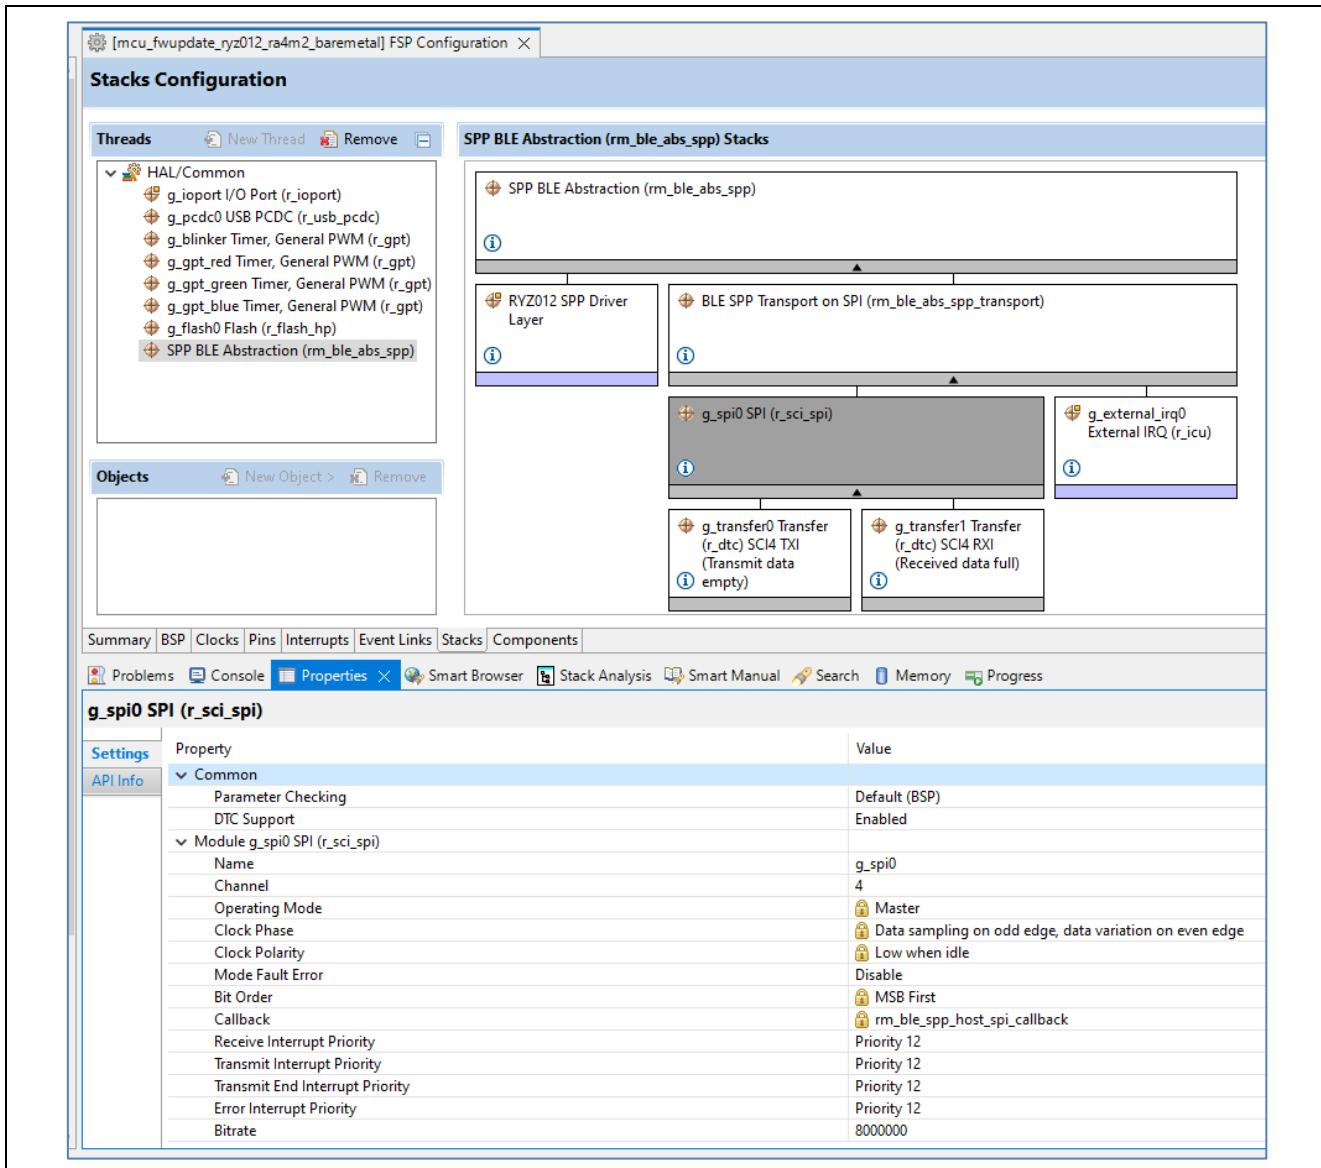
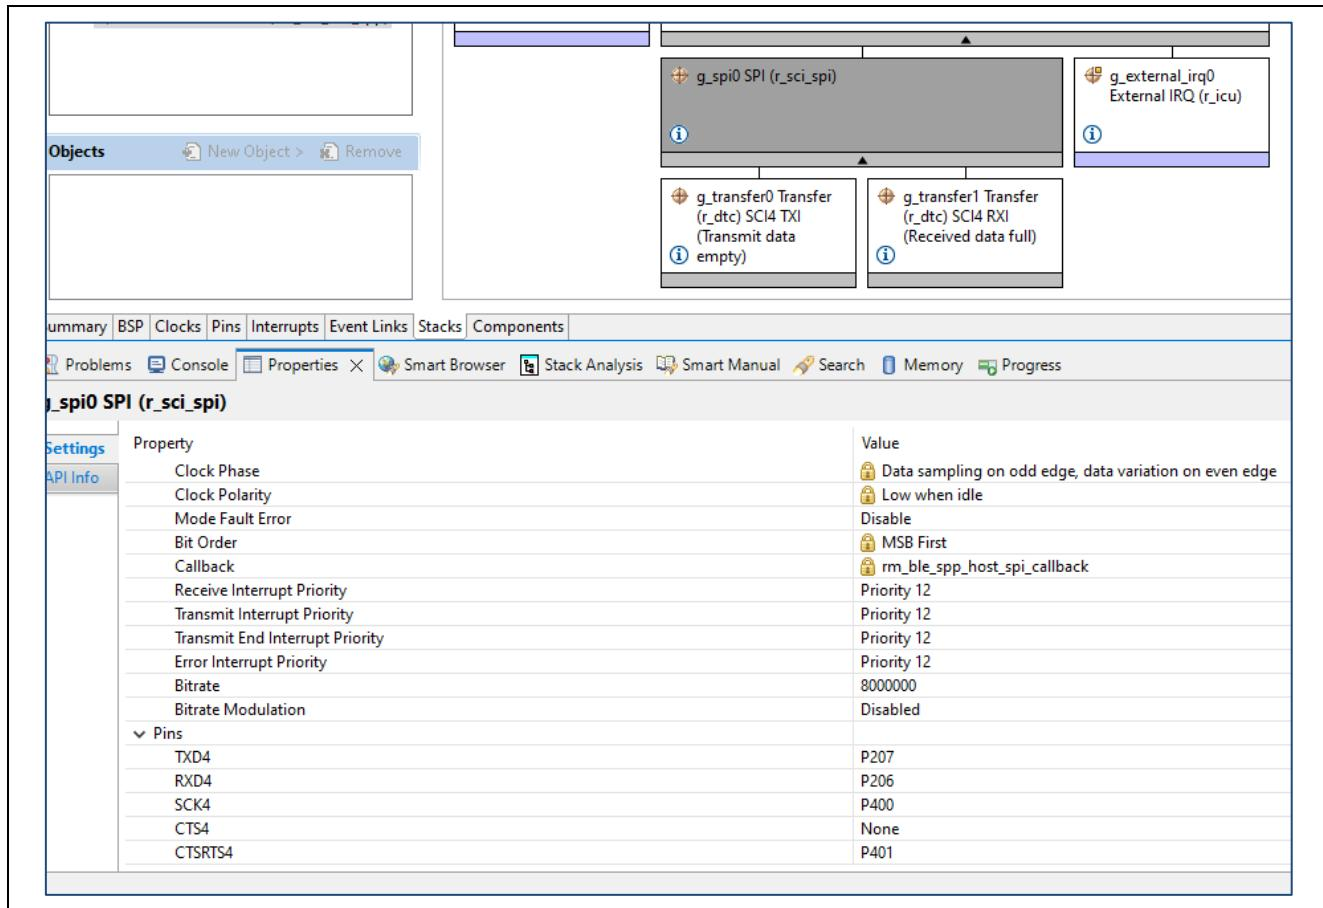
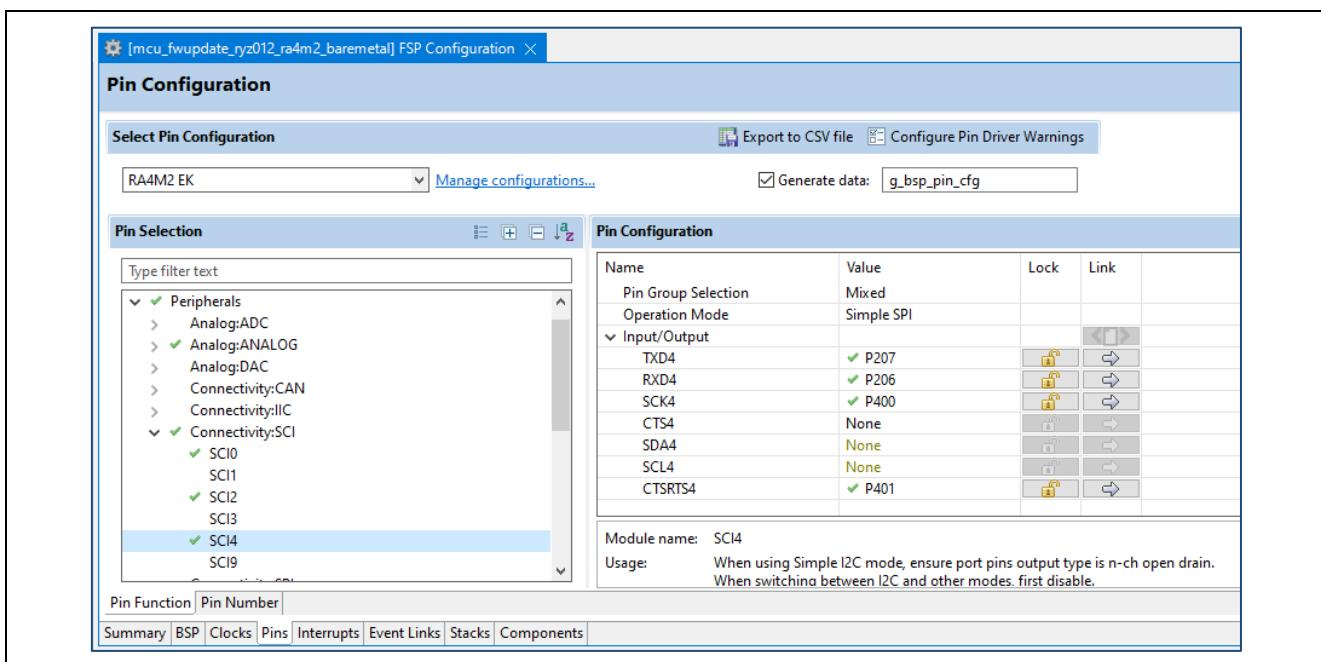

Figure 32. SPI Module Properties
Figure 33. SPI Module Properties – Pin Assignments
Figure 34. Pin Configuration > SCI
See Figure 32, SPI Module Properties. For the SPI configuration, it is necessary to specify which SCI channel to use. Match the SCI channel used and configure it as the SPI interface for PMOD1 in the **Pins Tab** see Figure 34, Pin Configuration > SCI to configure SPI Mode and Pins. Here SCI Channel 4 is being used on the RA4M2 in SPI Mode with the Pins assigned to PMOD1 (conn J26). See the Schematic for EK-RA4M2 for more details on the PMOD1 signals and pin assignments.
2. Change the following SPI Configuration Properties in the properties window as in Figure 32 and Figure 33.
3. Add the DTC driver (`r_dtc`) to both transmit and receive. See Figure 32, SPI Module Properties, `g_transfer0 SCI4 TXI` and `g_transfer1 SCI4 RXI` for more details.
For the TXD_MOSI and RXD_MISO pin assignments, it is necessary to specify which SCI channel to use on the **Pins** tab. For the EK-RA4M2 with RYZ012 PMOD connected to PMOD1 (conn J26), SPI is assigned to SCI Channel 4 (SCI4) and the **Operation Mode** set to **Simple SPI**. The Input/Output Pins are assigned as specified in Figure 34, Pin Configuration > SCI. If your application uses a different RA MCU or PMOD connector then refer to the RA MCU Schematic to determine the Pin assignments for the PMOD connector.
Similar to configuring SPI, see section 5.4.2, Configure Peripherals for SPP BLE Abstraction Driver, to configure the UART Ports and Pins required for the PMOD connector on your board. In the step where Input/Output Pins are assigned as specified in Figure 34, Pin Configuration > SCI, set the Operation Mode to **Asynchronous UART**.